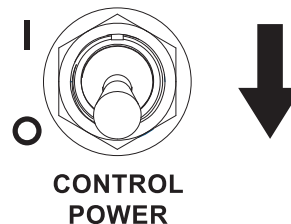

Figure 3-46. Controller Power Switch
- See Figure 3-46. Switch controller power to OFF (O).